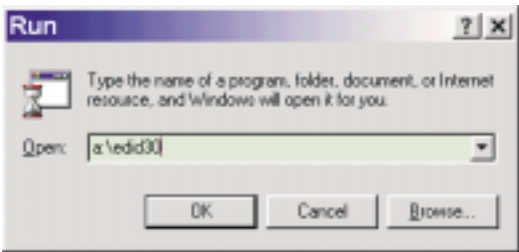

Fig. 5
- 3. At the submenu, type the letter of your computer's floppy disk drive followed by :EDID301 (for example, A:\EDID301, as shown in Fig. 5).